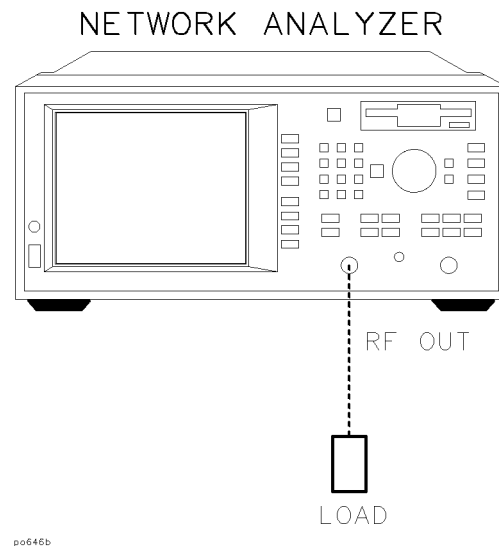

Figure 1-4. Connect the Load
4. Disconnect the cable and connect a known good load to the RF OUT port as shown in Figure 1-4.